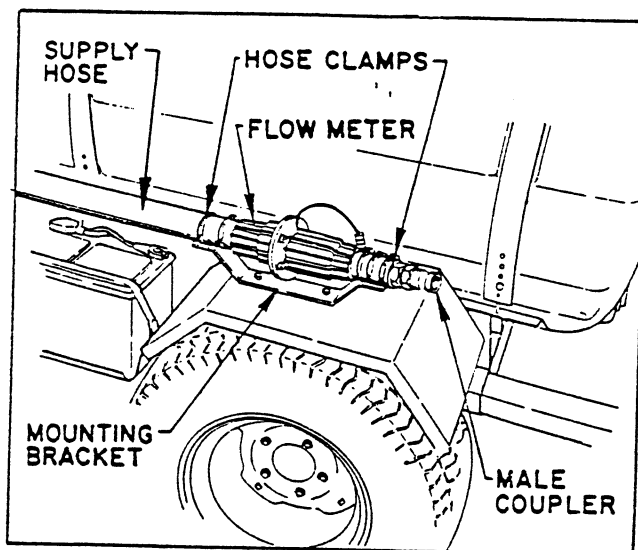

FIG. 8
■ Attach the Mounting Bracket to the left rear Fender as shown in FIG. 8, using two 5/16" x 1" hex hd cap screws, washers and nuts